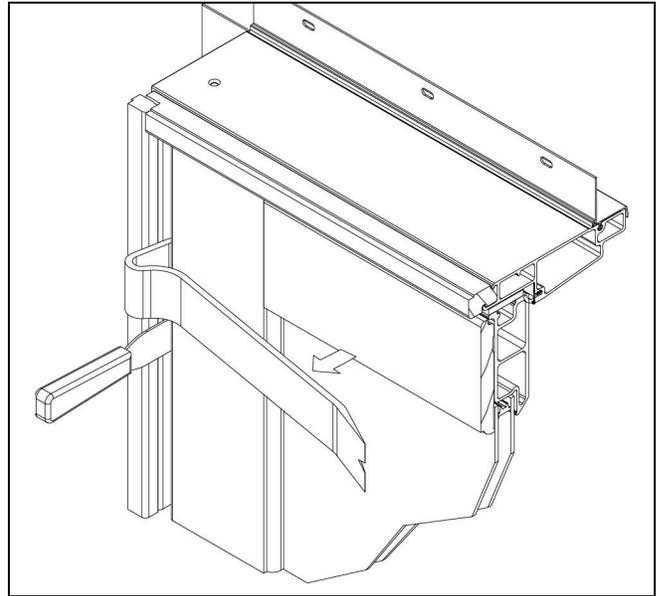

Figure 3 Interior View
2. With the stiff putty knife in place, carefully pry the panel away from the frame using a pry bar as shown in Figure 3.